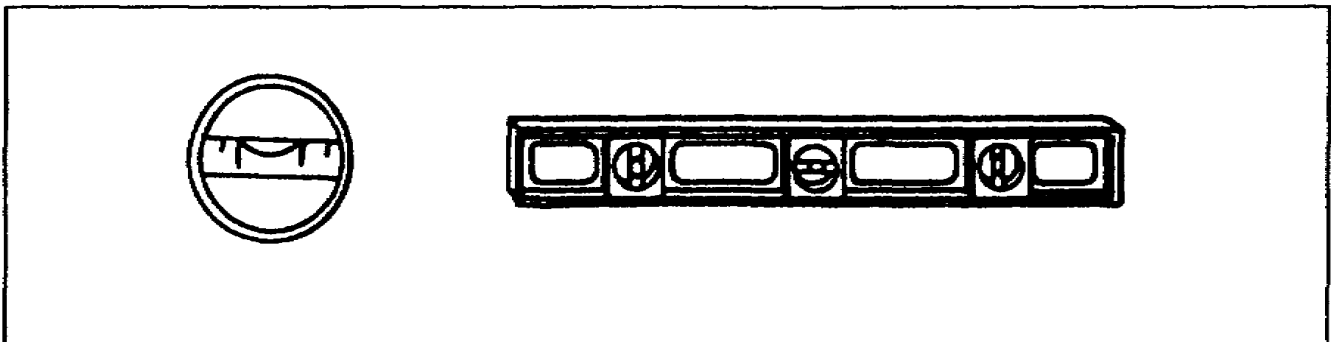

Figure 2-40. Common level
a. Common Level. The common level (Figure 2-40) is used for both guiding and testing when bringing work to a horizontal or vertical position. The level has a long rectangular body of wood or metal, which has a built-in glass spirit tube on its side and near the end. Each tube contains a nonfreezing liquid with a small air bubble free to move within the tube. The side and end tubes are at right angles to each other. When you center the bubble of the side tube with the hairline, the level is horizontal; when you center the bubble of the end tube with the hairline, the level is vertical. By holding the level against a surface to be checked, you can determine whether the surface is truly level (or *plumb*). Levels should be hung up when not in use.